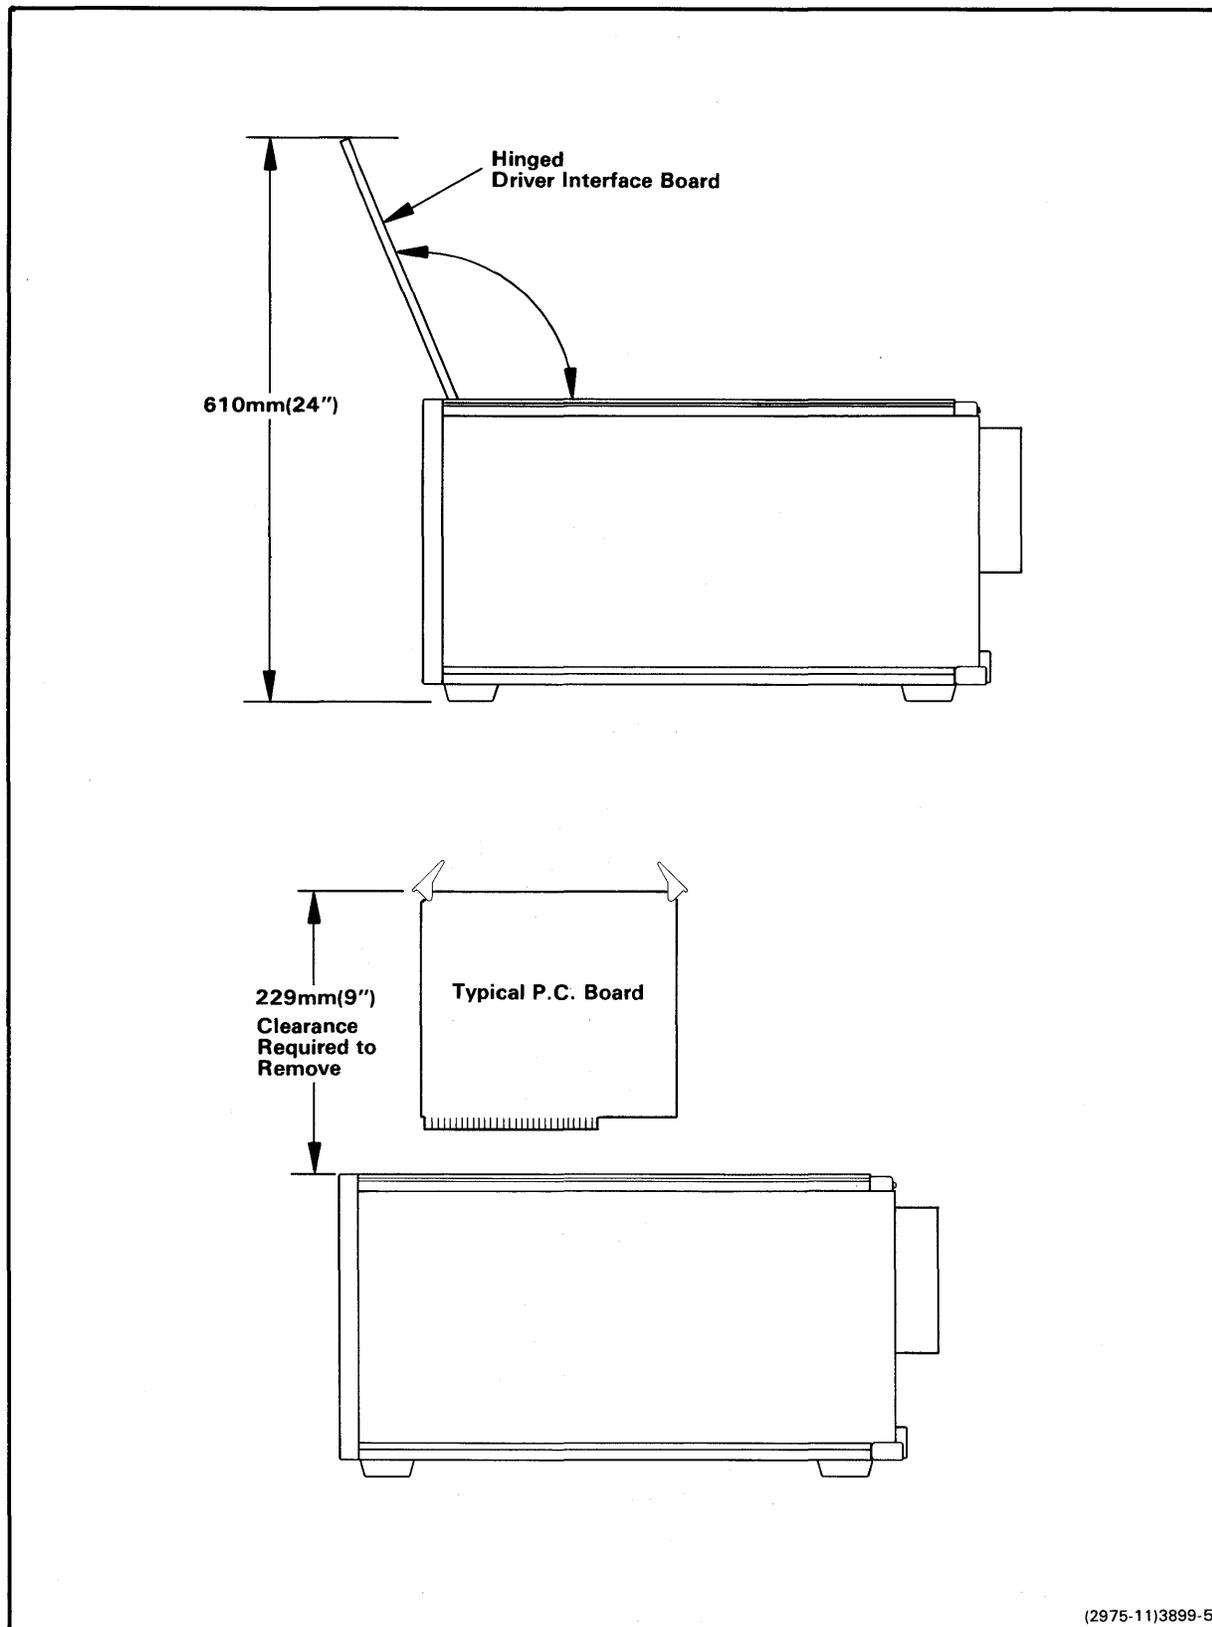

Fig. 2-3. Circuit board clearance requirements.
- Allow adequate clearance above the 8560 to permit inspection and removal of circuit boards, as shown in Fig. 2-3.
2. Swing the hinged board up to allow access to the hard-disc drive rotor (see Fig. 2-3).